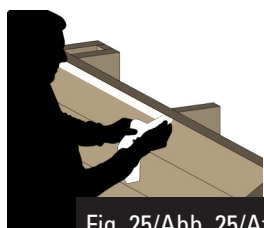

Fig. 25/Abb. 25/Afb. 25
- Stick the two-faced adhesive tape panel by panel, aligning it with the upper part of the top boards (figure 25).